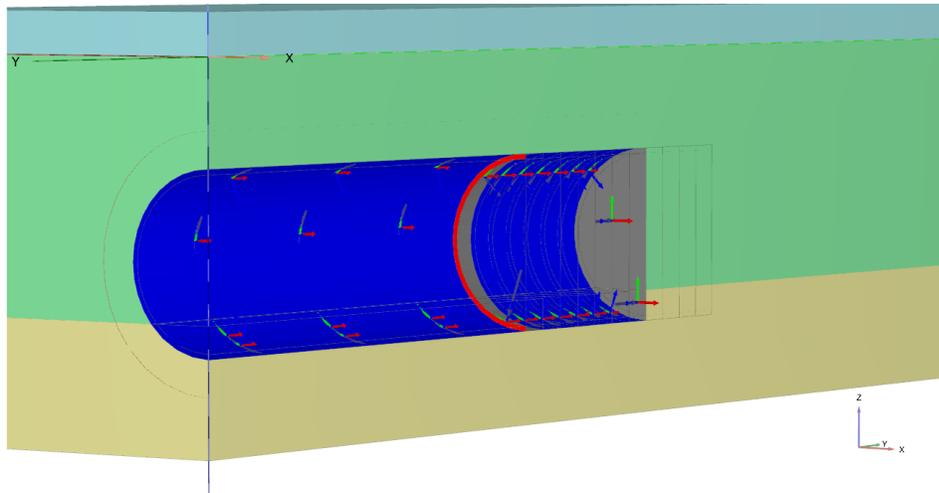

Figure 81: Selection of soil surfaces (25.0 m)
- c. In the drawing area select the lateral surfaces of the outer volume, corresponding to the last slice of the TBM (grout and jack thrusting) at 25.0 m (Figure 81 (on page 106)). In the **Selection explorer**, deactivate the surface load corresponding to the jack thrusting, because the TBM is only placed in this phase and it's not moving.